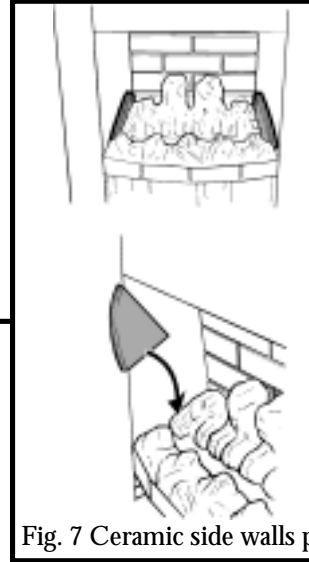

Fig. 7 Ceramic side walls position
4. The ceramic side walls are marked at the rear bottom corners "L" (Left side) & "R" (Right side). Place the side walls against the sides of the fire box and in the recesses at the sides of the base coals. The markings "L" & "R" should be at the at the back bottom corners and facing to the centre of the back of the firebox (See figure 7).